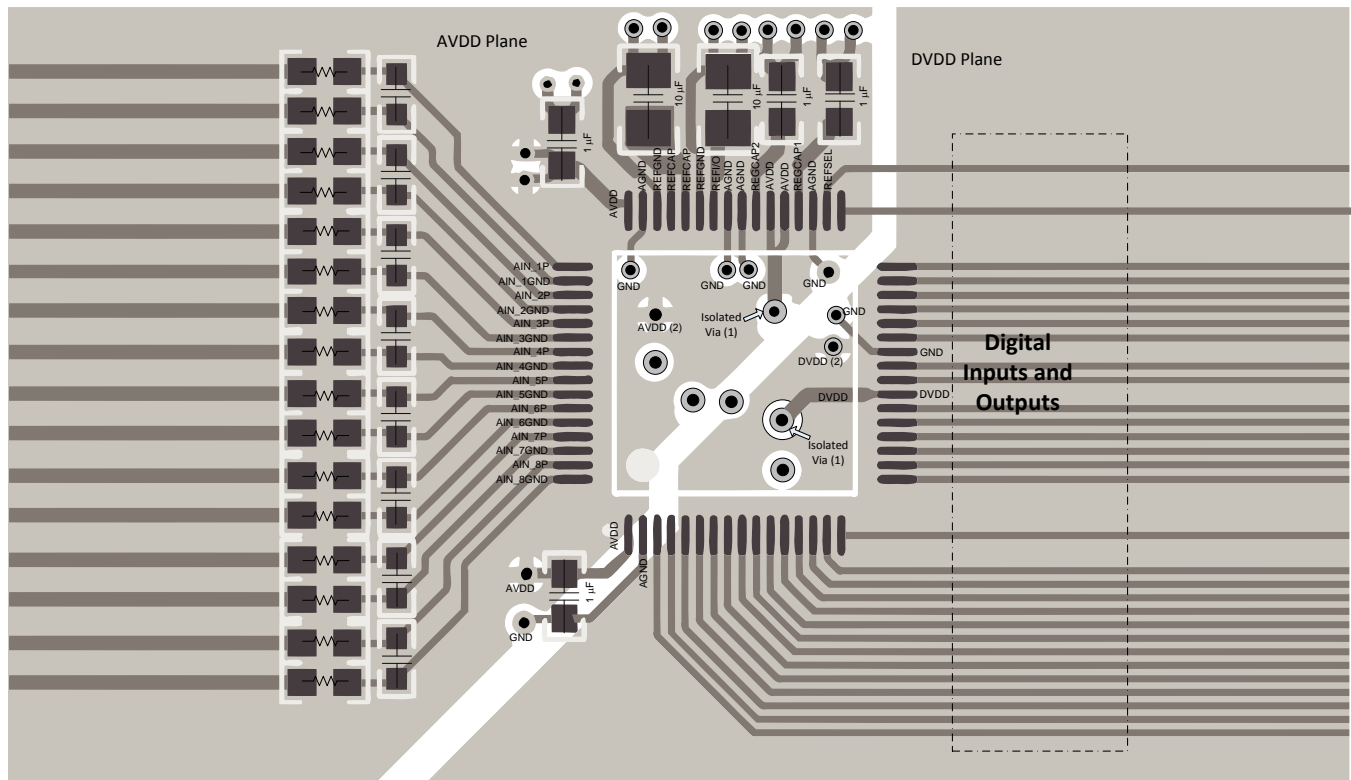
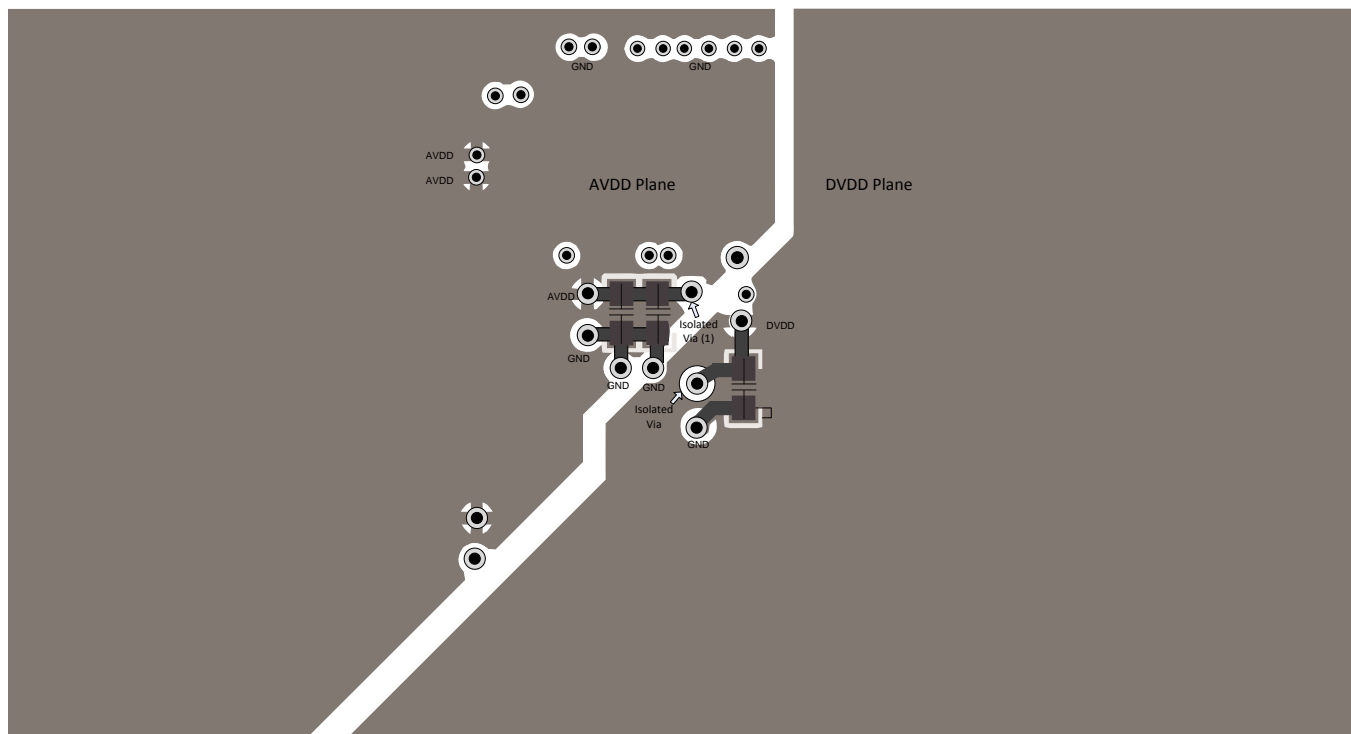

Figure 90. Top Layer Layout
Figure 91. Bottom Layer Layout
Figure 90 and Figure 91 illustrate a PCB layout example for the ADS8598H.
- Power sources to the ADS8598H must be clean and well-bypassed. As a result of dynamic currents during conversion, each AVDD must have a decoupling capacitor to keep the supply voltage stable. Use wide traces or a dedicated analog supply plane to minimize trace inductance and reduce glitches. Using a 1- $\mu$ F, X7R-grade, 0603-size ceramic capacitor is recommended in close proximity to each analog (AVDD) supply pin. Bypass capacitors for AVDD pins 1 and 48 are located on the top layer; see Figure 90. AVDD supply pins 37 and 38 are connected to bypass capacitors in the bottom layer using an isolated via (1); see Figure 91. A separate via (2) is used to connect the bypass capacitor to the AVDD plane.
- For decoupling the digital (DVDD) supply pin, a 1- $\mu$ F, X7R-grade, 0603-size ceramic capacitor is recommended. The DVDD bypass capacitor is located in the bottom layer; see Figure 91.
Figure 90 and Figure 91 illustrate a recommended layout for the ADS8598H along with proper decoupling and reference capacitor placement and connections.